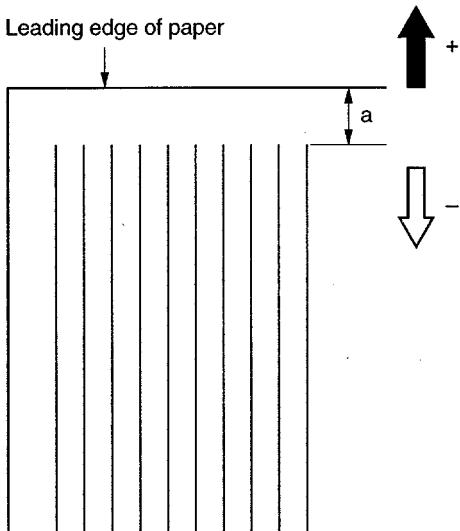
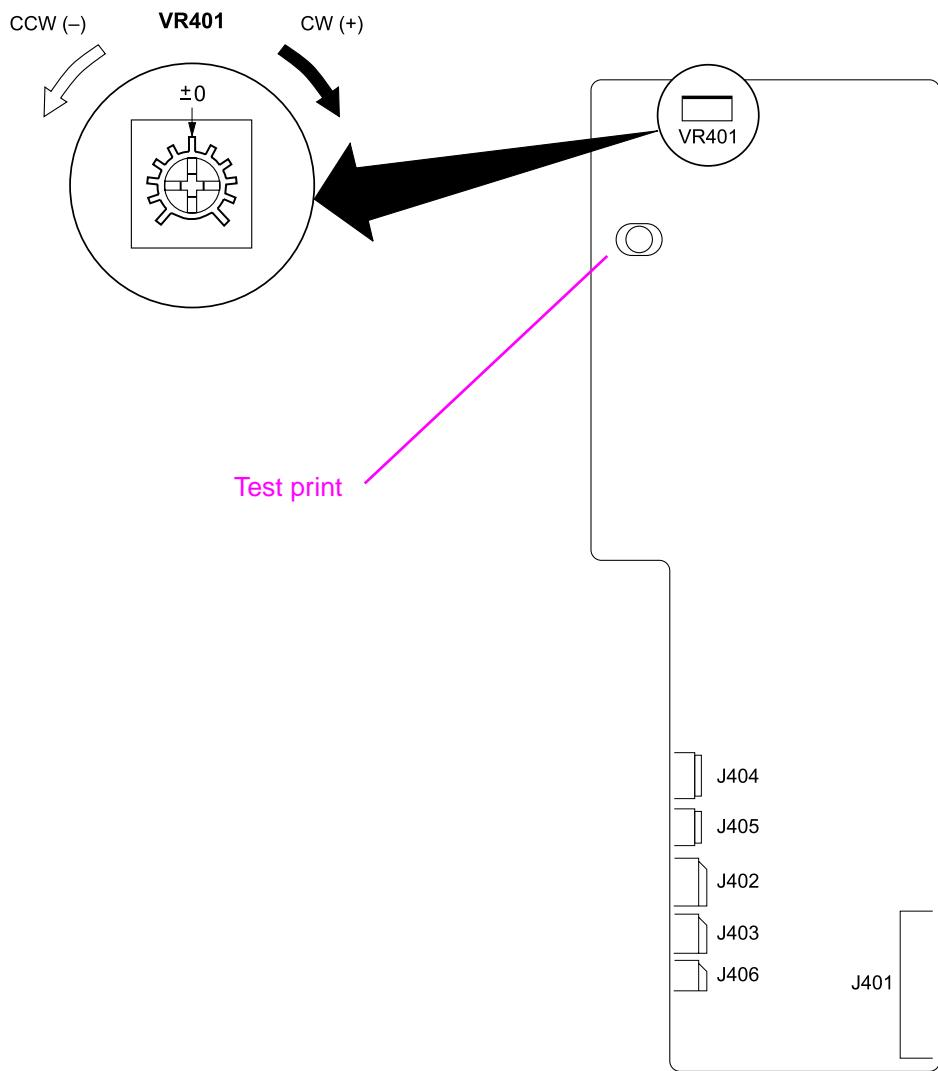

Figure 61.
Figure 62. Location of VR401 on the paper-handling PCA
The test-print switch is also located on the paper-handling PCA (a hole in the Tray 1 cavity allows access); see figure 62.
- 2 Measure the length from the leading edge of the paper to the print pattern ("a" in figure 61). Measure all the test prints and calculate the average.
- 3 Adjust the VR401 so that the calculated value in step 2 becomes 2.0 mm. The pattern image shifts in the "+" direction in figure 61 if the VR401 (see figure 62) is turned clockwise, and in the "-" direction if the VR401 is turned counterclockwise. Turning the VR401 one scale shifts the pattern approximately 0.8 mm. For example, if the average value calculated in step 2 is 2.8 mm, then the difference is 0.8 mm; turn the VR401 clockwise for one scale.